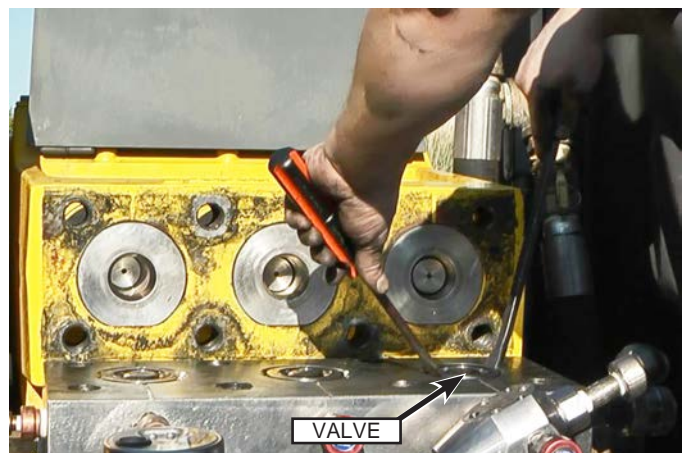

Fig. 83: Valve Removal
7. Use two small pry bars (Jetstream p/n 70179) to pry the valve out of the manifold as shown in (Fig. 83).